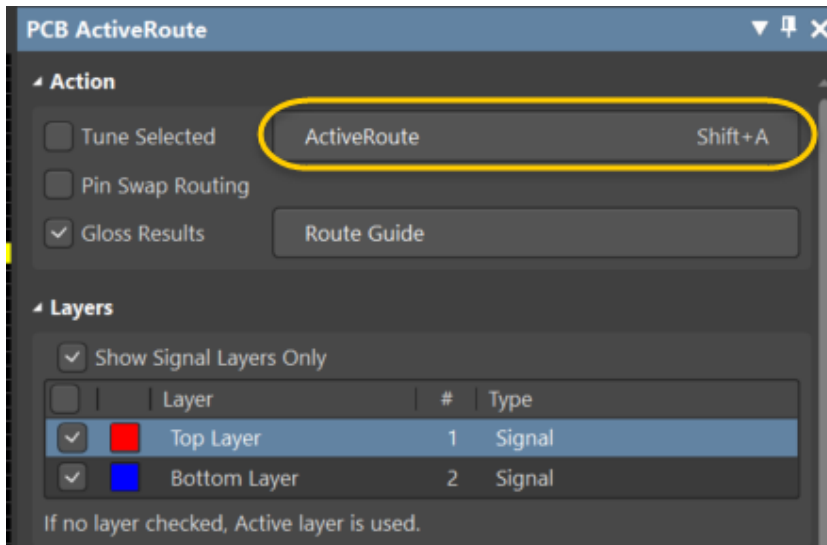
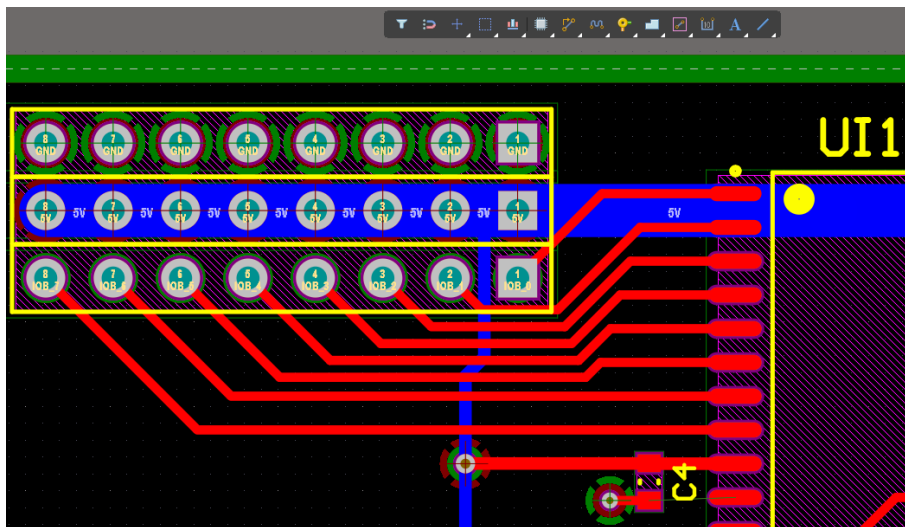

Figure 16. Click the ActiveRoute button to start the routing
Figure 17. ActiveRoute completed
43. Click the **ActiveRoute** button in at the top of the panel as shown in Figure 16, or select **Route » ActiveRoute**. The routes will be completed as shown in Figure 17.